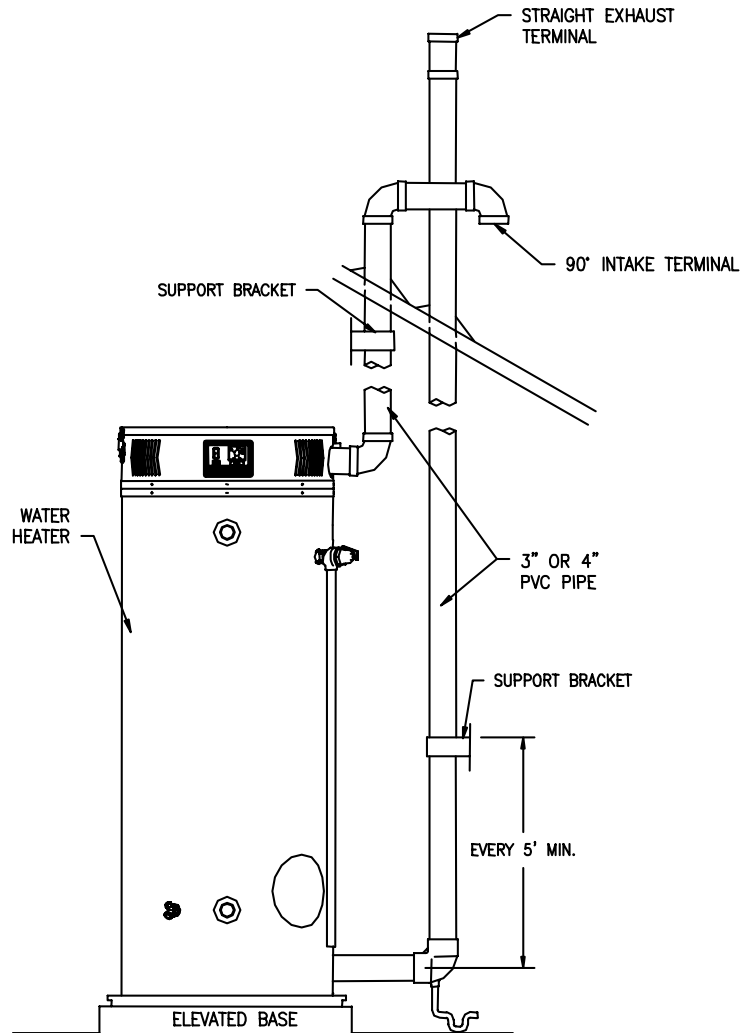

Figure 14. Typical Vertical Direct Vent System Installation
- Install the exhaust vent and air intake plastic pipes as shown in Figure 14. Make sure that the installation meets the local codes and/or The National Fuel Gas Code ANSI Z223.1 (Latest Edition) or CGA/CAN B149 Installation Code.